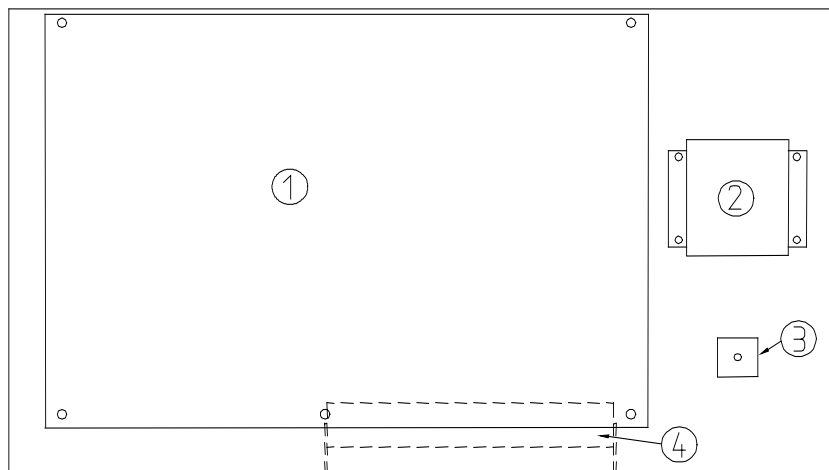

Fig. 20
| See Fig. 20 | | | |
| Fig 20 - ① | 89003436* | μP+PWR board (230V) NEW MOTOR – (tested) for Sn > 305100385 | 1 |
| Fig. 20 - ① | 89003463* | μP+PWR board (230V) OLD MOTOR – (tested) for Sn < 305100385 | |
| Fig 20 - ② | 86004585 | Contactor (230V) | 1 |
| Fig 20 - ④ | 86001432 | Brake resistor | 1 |
| Fig 20 - ① | 89003437* | μP+PWR board (120V) NEW MOTOR - (tested) for Sn > 305100385 | 1 |
| Fig. 20- ① | 89003462* | μP+PWR board (120V) OLD MOTOR - (tested) for Sn < 305100385 | |
| Fig 20 - ③ | 86004598 | Bridge rectifier (120V) | 1 |
| Fig 20 - ② | 86004586 | Contactor ((120V) | 1 |